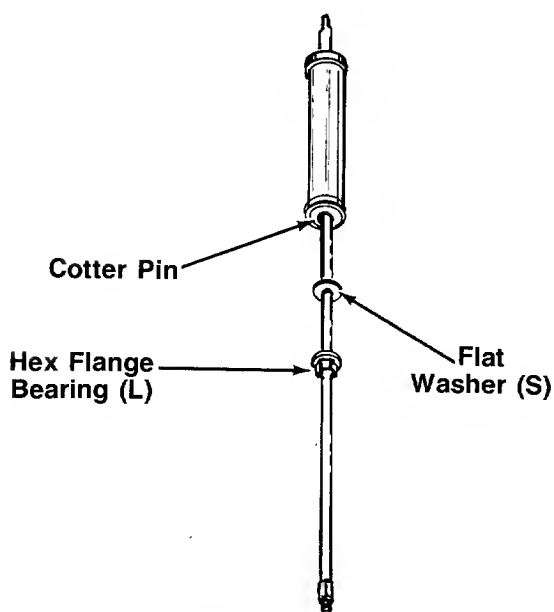

FIGURE 6.—Style A Only
4. With the **steering shaft** in the normal upright position (end with flattened portions up), slide the **steering tube spacer** and **steering tube** down over the **shaft**. See figure 6.
5. Slip **flat washer (S)** (1 1/4" diameter) on the **steering shaft** immediately below the cotter pin. Place one plastic **hex flange bearing (L)**, flat side up, below the washer. See figure 6.